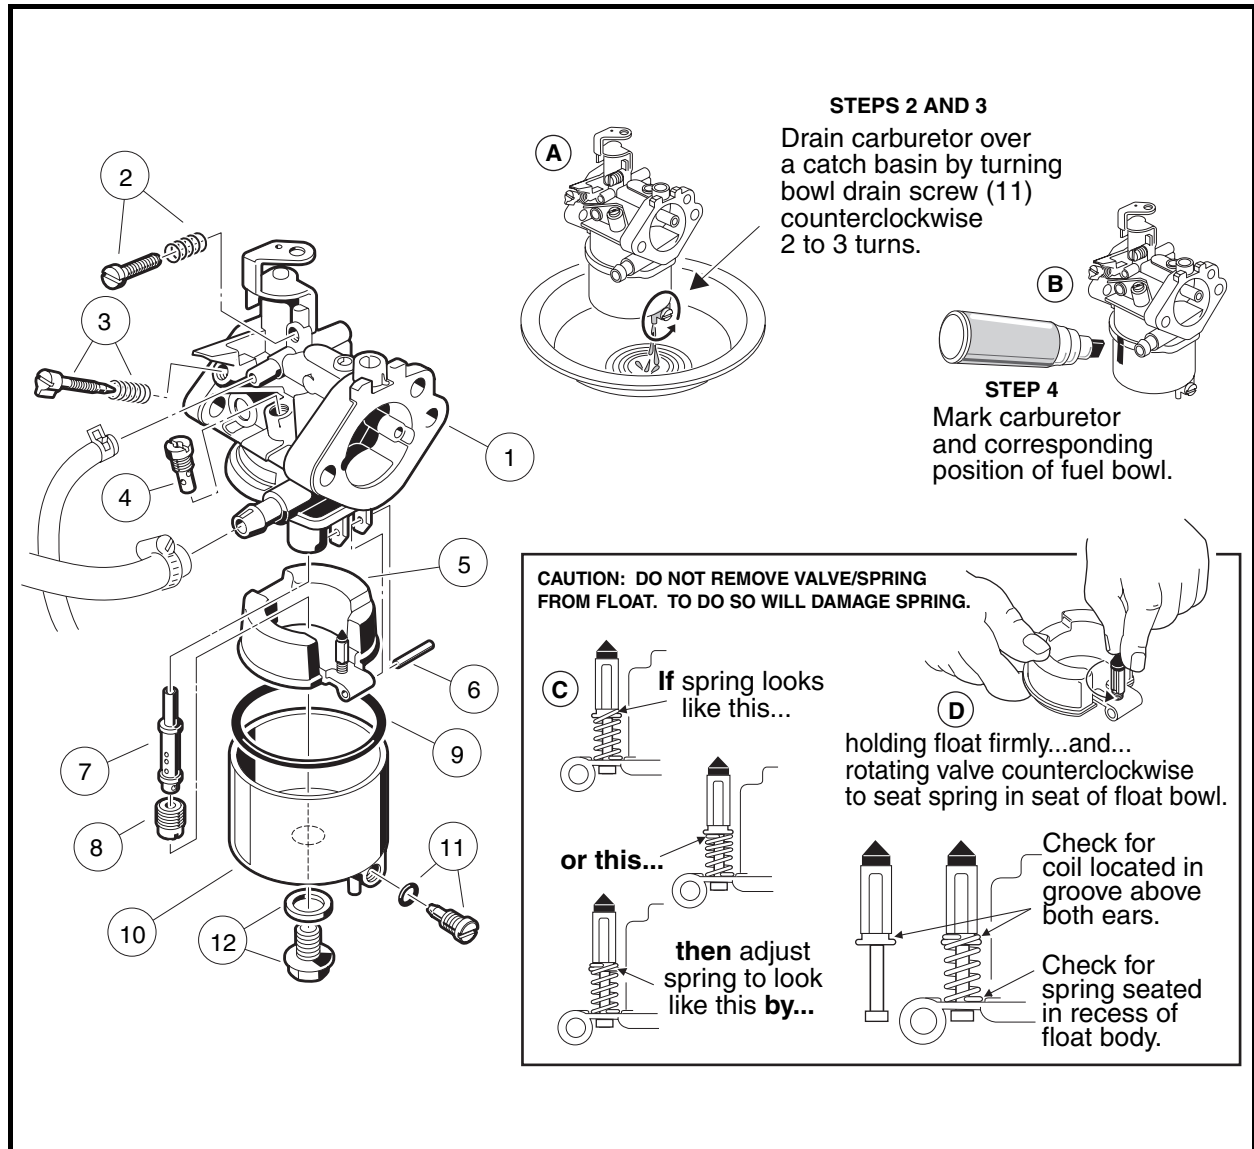

Figure 14-3 Changing the Main Jet
2. Position the carburetor with the drain screw (11) over a catch basin (**Figure 14-3, Page 14-5**).
5. Remove the carburetor fuel bowl retaining screw and washer (12), then remove the fuel bowl (10) and clean it with a nonflammable solvent. **See following NOTE.**